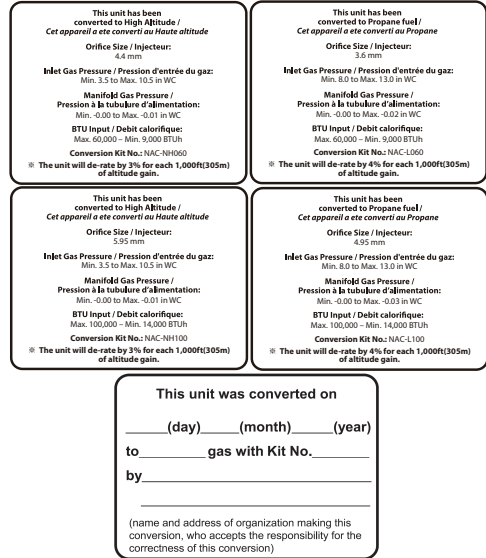

Figure 11. Proper Placement of Gas Conversion Labels
13. Once the CO2 or offset values have been confirmed, apply the included conversion stickers to show that the appliance has been converted to Propane Gas or High Altitude. Place these labels adjacent to the rating plate as shown in Figure 11.